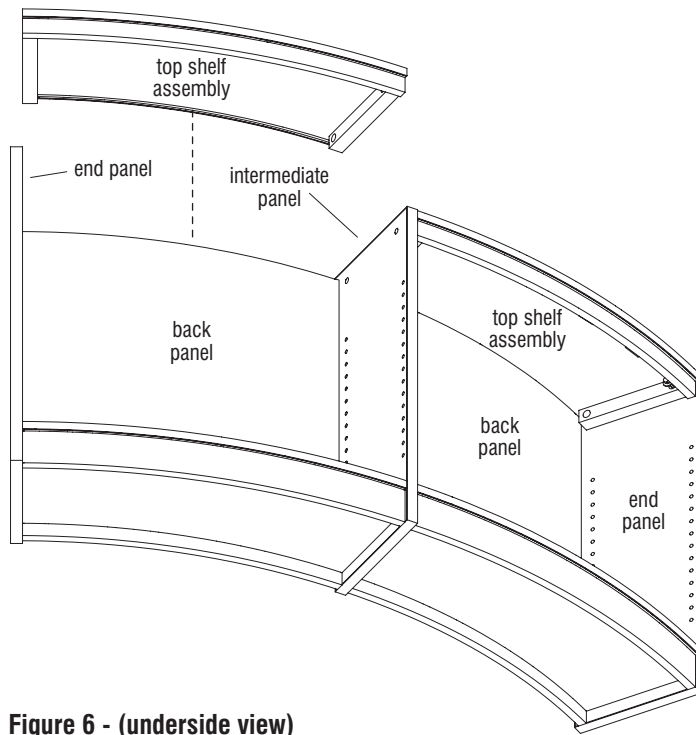

Figure 6 - (underside view)
9. With the assistance of a second person, have one person lower a top shelf assembly down on top of the back panel, in between the top of both end and intermediate panels, and hold in position. The second person is to take a $\frac{5}{16}$ -18 x 2" hex head bolt with locking and flat washers and press it through the mounting holes at the inside, front of the top shelf, then twist it into the end panel at the top. Then take in hand a $\frac{5}{16}$ -18 x 4 $\frac{1}{2}$ " hex head bolt with flat washer and press it through the mounting holes at the front inside, of the top shelf, then through the intermediate panel at the top. Repeat the process above to set in place and loosely secure the second top shelf assembly using a $\frac{5}{16}$ -18 x 2" hex head bolt with locking and flat washers at the end panel side, then completely press through the $\frac{5}{16}$ -18 x 4 $\frac{1}{2}$ " hex head bolt with flat washer through the top shelf mounting hole to hold the second top shelf loosely at the intermediate panel (Figures 6 & 7, Details F & G).
10. With the assistance of a second person, push and work the top of each back panel into the channel at the underside of each top shelf assembly in place. Each top shelf will drop slightly when the back panel is fully seated in the channel of the top shelf assembly (Figure 6).